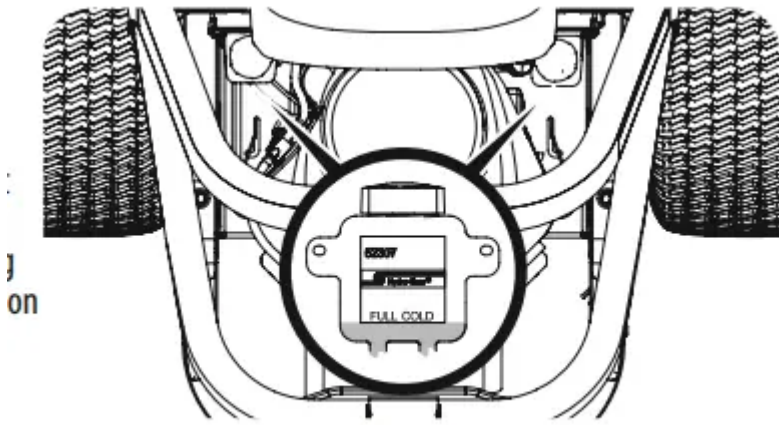

Figure 33
1. Clean the reservoir cap and the area around the cap to prevent debris from contaminating the transmission oil. See Figure 33.
2. Turn the reservoir cap counter-clockwise to remove, then check the oil level in the reservoir. Oil should be visible at the bottom of the cup, but the oil level must NOT be above the "FULL COLD" line. See Figure 33. DO NOT FILL THE RESERVOIR.
1. Remove the cap from the transmission oil expansion reservoir. See Figure 33.